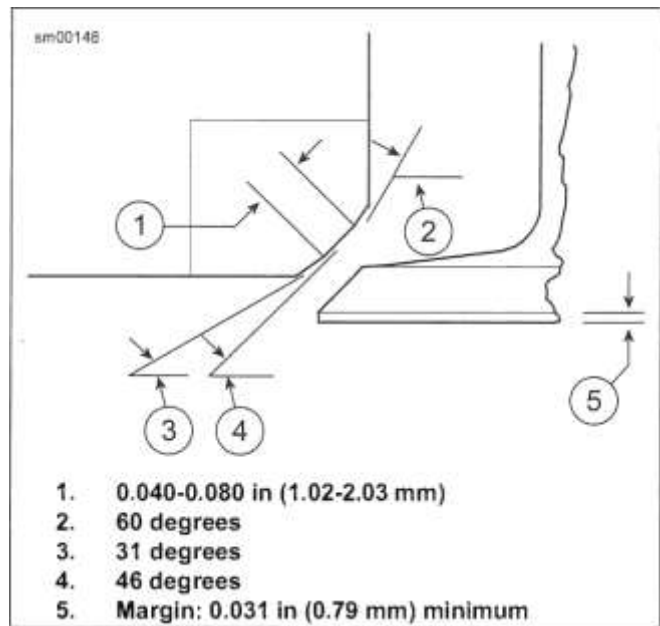

Figure 4-31. Valve and Seat Dimensions
- See Figure 4-31. Replace the valve if margin (5) is less than 0.0313 in (0.795 mm).